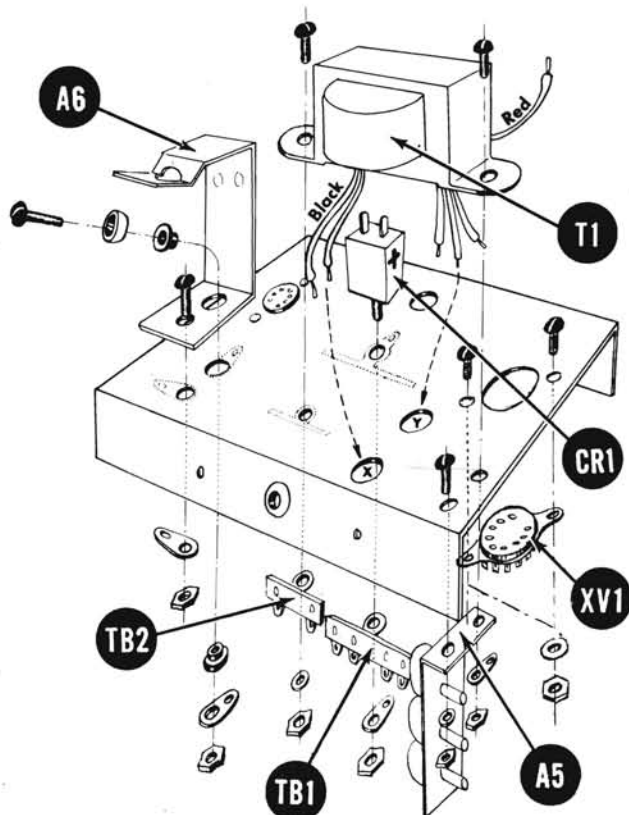
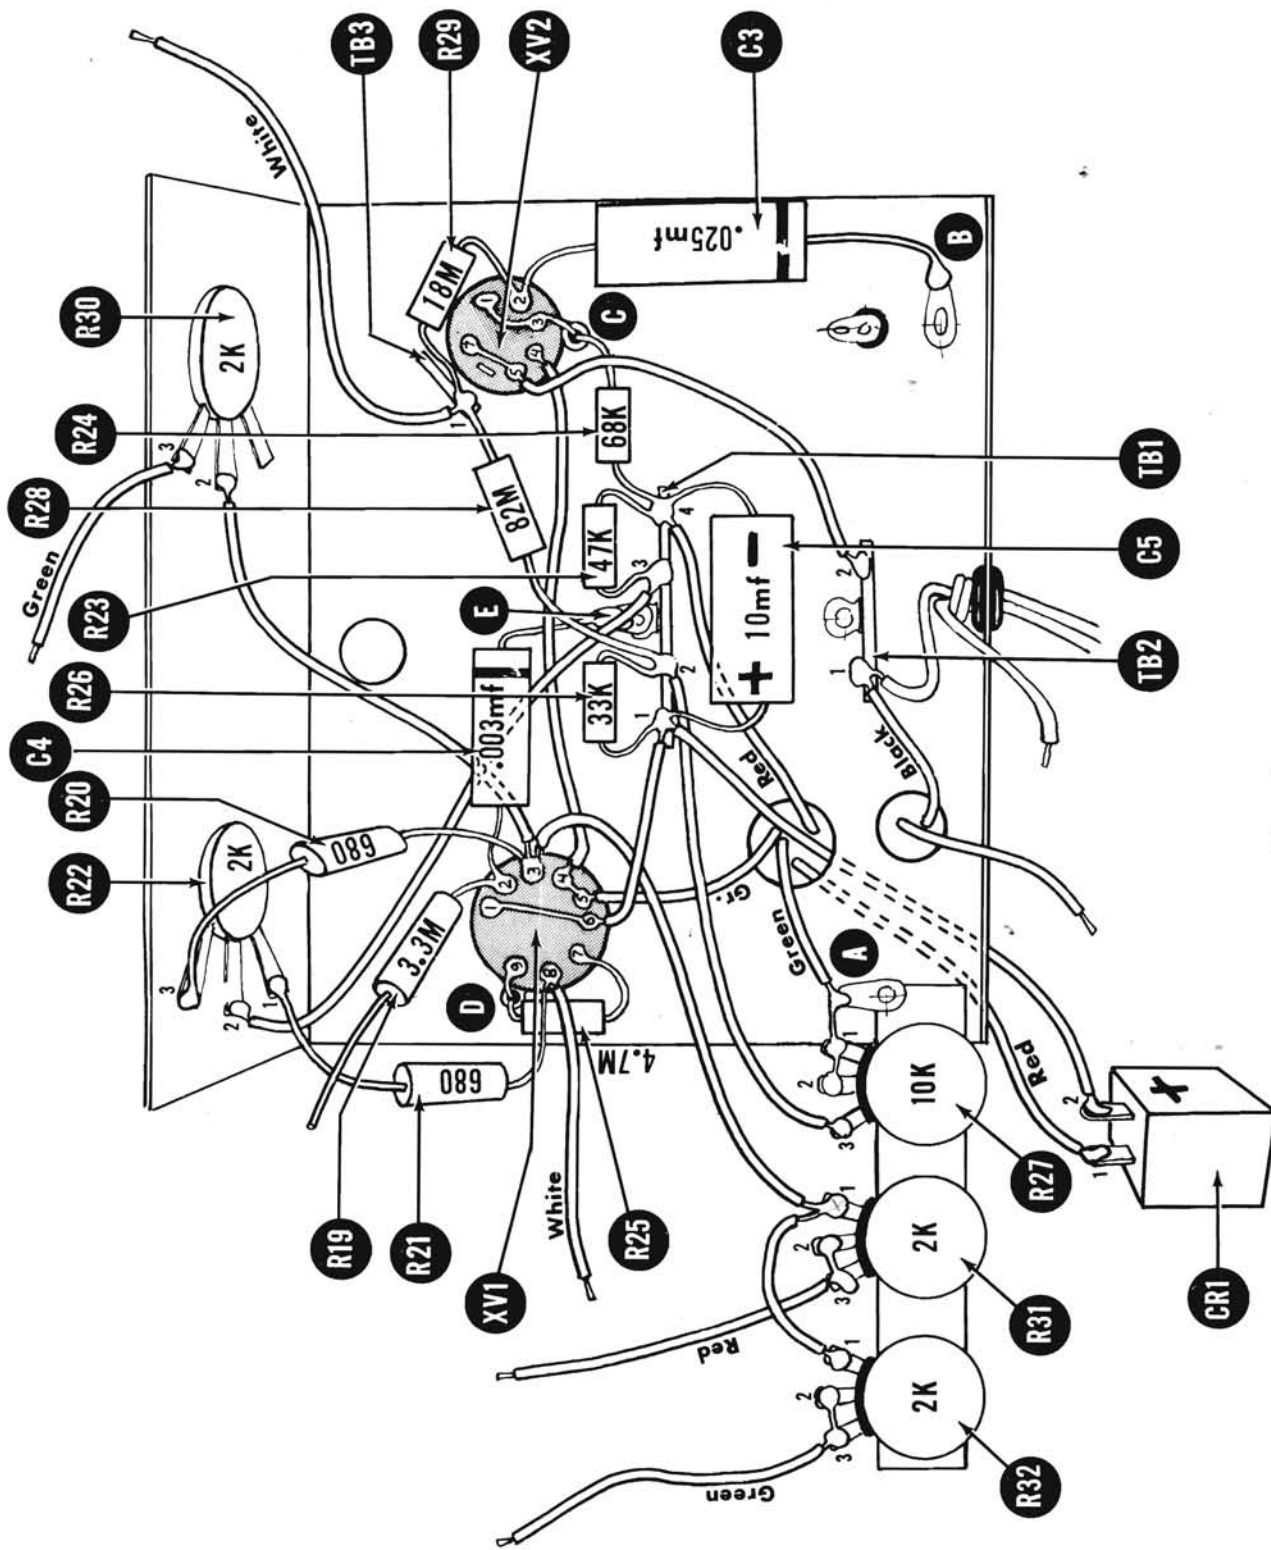

Fig. 2
Fig. 3
- (-) Fig. 2. Mount the 9 pin miniature socket, XV1, with 2 each #4-40 screws, #4 hex nuts and #4 washers. See Fig. 3 for keyway location.
- (-) Fig. 2. Mount the 7 pin miniature socket, XV2, with 2 each #4-40 screws, #4 hex nuts, and #4 washers. A one post left terminal strip, TB3, is mounted with XV2. See Fig. 3 for location.
- (-) Fig. 2. Insert 3/8" rubber grommet for line cord in hole in center of rear chassis apron.
- (-) Fig. 2. Mount the selenium rectifier CR1 with a 6/32 hex nut. Position the 4 post terminal strip TB1 and the ground lug under the nut as shown.
- (-) Fig. 2. Mount the battery clip A6 with a 6-32 X 1/4 screw and a 6-32 hex nut. Position gnd. lug under nut as shown. Line up the two empty holes before you tighten nut.
- (-) Fig. 2. Mount the cup washer to the battery clip. Use a 6-32 X 1/2 screw, two #6 shoulder fiber washers and a 6-32 hex nut. Position a #6 ground lug under nut as shown.
- (-) Fig. 2. Mount the pre-assembled potentiometer bracket A5 to the chassis. Use a 6-32 X 1/4 screw, a #6 lockwasher and a 6-32 hex nut. Line up two empty holes before you tighten nut.
- (-) Fig. 2. Mount the power transformer T1 to the chassis. Pass black leads thru hole "X" and the leads on the other side of the transformer thru hole "Y" except one red. Use two 6-32 X 1/4 screws, one #6 lockwasher and two 6-32 hex nuts. Place two post terminal strip TB2 as shown and under other hex nut position a #6 ground lug.
- (✓) Fig. 3. Mount the 2 K Ω Zero Adj. potentiometer R22 with two 3/8 hex nuts, one 3/8 lockwasher and one 3/8 flat washer. This is a temporary mounting.
- (✓) Fig. 3. Likewise, mount the 2 K Ω Ohms Adj. potentiometer R30.
- (✓) Fig. 3. Connect green lead of power transformer T1 to ground lug "A" (C).
- (✓) Fig. 3. Connect a short length of bare wire from gnd lug "A" (S) to R27-2 (S) thru R27-1 (S).
- (✓) Fig. 3. Connect green lead of power transformer T1 to XV1-4 (C) thru XV1-5 (S).
- (✓) Fig. 3. Connect red lead of power transformer T1 to TB1-4 (C).
- (✓) Fig. 3. Connect the other red lead of power transformer T1 to CR1-1 (S). This lead is on top side of chassis.
- (✓) Fig. 3. Connect a length of red hook-up wire from CR1-2 (S) to TB1-1 (C).
- (✓) Fig. 3. Connect black lead of power transformer T1 to TB2-1 (C).
- (✓) Fig. 3. Connect a length of green hook-up wire from XV1-4 (S) to XV2-4 (S).
- (✓) Fig. 3. Connect the positive (+) lead of the 10mf electrolytic capacitor C5 to TB1-1 (C) and the negative lead (-) to TB1-4 (C).
- (✓) Fig. 3. Connect a short length of red hook-up wire from TB1-1 (C) to XV1-1 (S), thru XV1-6 (S).
- (✓) Fig. 3. Connect the 33 K Ω resistor R26 from TB1-1 (S) to TB1-2 (C).
- (✓) Fig. 3. Connect a length of red hook-up wire from TB1-2 (C) to R27-3 (S).
- (✓) Fig. 3. Connect the 82 M Ω resistor R28 from TB1-2 (S) to TB3-1 (C).
- (✓) Fig. 3. Connect the 18 M Ω resistor R29 from TB3-1 (C) to XV2-2 (C). Use spaghetti.
- (✓) Fig. 3. Connect a 5 1/2 in. length of white hook-up wire to TB3-1 (S).
- (✓) Fig. 3. Connect a .025 mf capacitor C3 from XV2-2 (S) to ground lug "B" (S). Use spaghetti.
- (✓) Fig. 3. Connect a short length of bare wire from XV2-1 (S) to lug "C" (C) on XV2 thru XV2-3 (S).
- (✓) Fig. 3. Connect the 68K Ω resistor R24 from TB1-4 (C) to lug "C" (S) on XV2.
- (✓) Fig. 3. Connect the 47 K Ω resistor R23 from TB1-4 (S) to TB1-3 (C).
- (✓) Fig. 3. Connect a length of white hook-up wire from TB1-3 (S) to R22-2 (S).